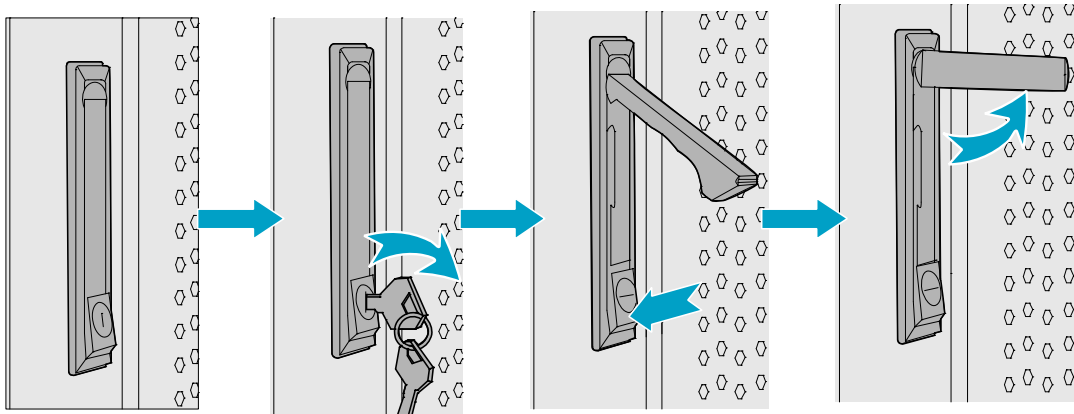

Figure 3-7 Opening the Cabinet Door
**Step 1** Open the front and back door, as shown in Figure 3-7.